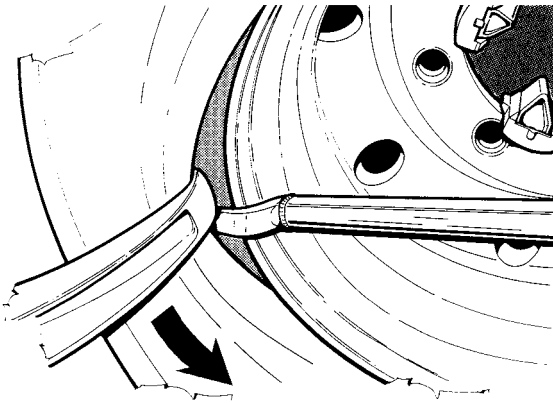

Fig.29
3. Lift the chuck arm enough to clear the hook 1" - 1 1/2" from the rim flange. Move the mount/demount tool towards the outside. This will allow you to place the long bar in between the bead and the rim flange for necessary prying (fig.29).